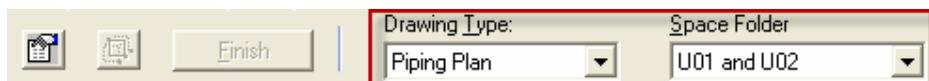

Figure 25: Place Drawing Volume by Selection Ribbon
3. In the **Select Volume Drawing Type** dialog box, select the **Piping Plan** component and click **OK**. Similarly, select the Space Folder with which you want to associate your drawing volume, as shown in Figure 25.